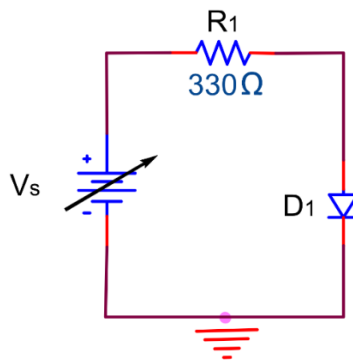

Figure 16.1
1. For Figure 16.1 calculate V_{R1} , V_{D1} , and I_F . Enter the data into table 1 in the procedure section.